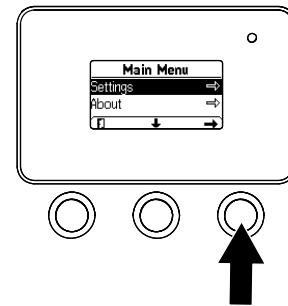

Figure 27
1. From the **MAIN MENU**, use the center button to scroll down to the **SETTINGS MENU** and press the right button (Figure 27).